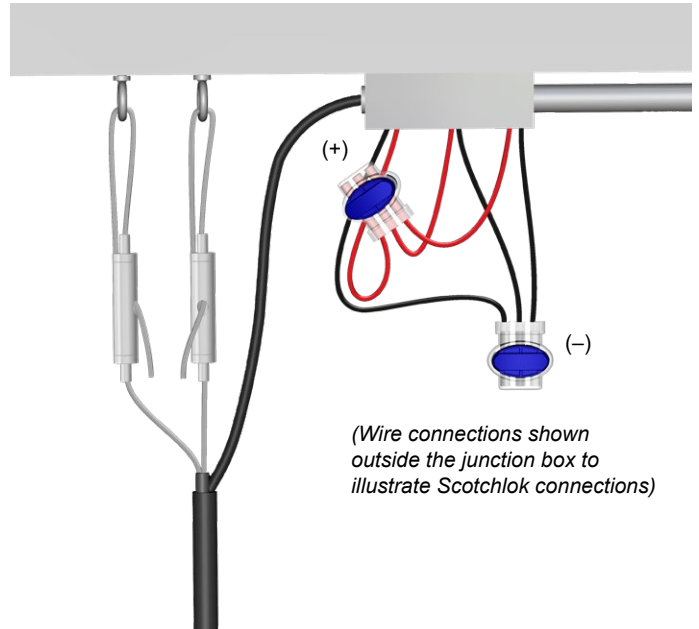

Figure 1b. A typical installation with wiring connections in a nearby junction box
5. Do the same to install the secondary support cable, giving it some slack to keep it from bearing weight. The secondary mount should be close to the primary one to avoid any kinetic force if the primary mount should fail. See Figure 1b for reference.